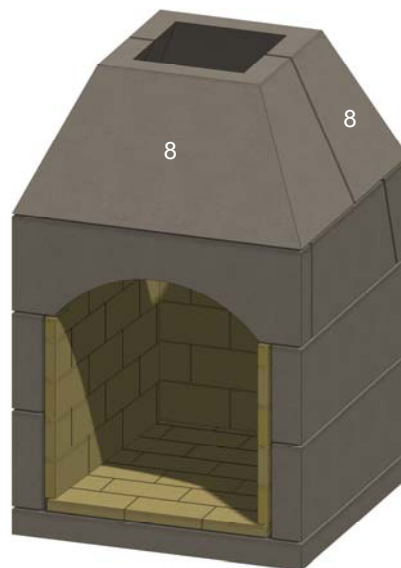

Figure 19. Throat Pieces
L. Install the tapered front and rear throat pieces. See Figure 19.